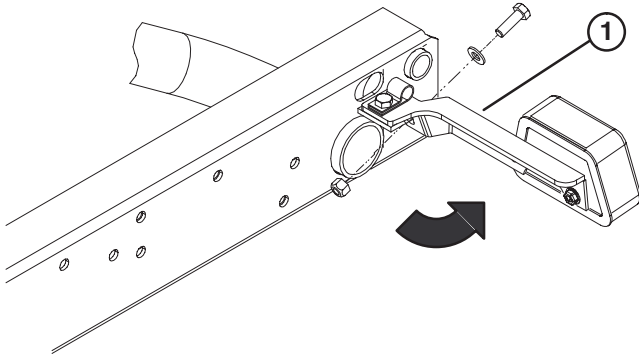

Figure 1
1. Loosen the locknuts and capscrews securing tail light brackets to right and left frame brackets (Fig. 1).
3. Secure rear of each tail light bracket to rear of frame brackets with a 5/16 x 1 in. capscrew, .344" I.D. flatwasher and locknut, as shown in figure 1.